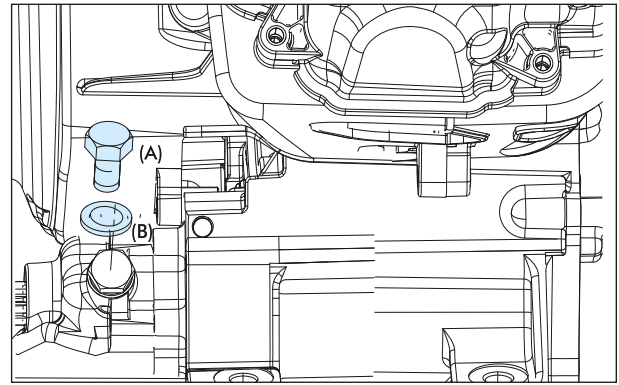

Fig. 2.17
- Refit the Plug TDC oil drain and filling bolt (A) along with sealing washer Oil drain & filling bolt (B) on the top of cover differential. (Fig.2.17)